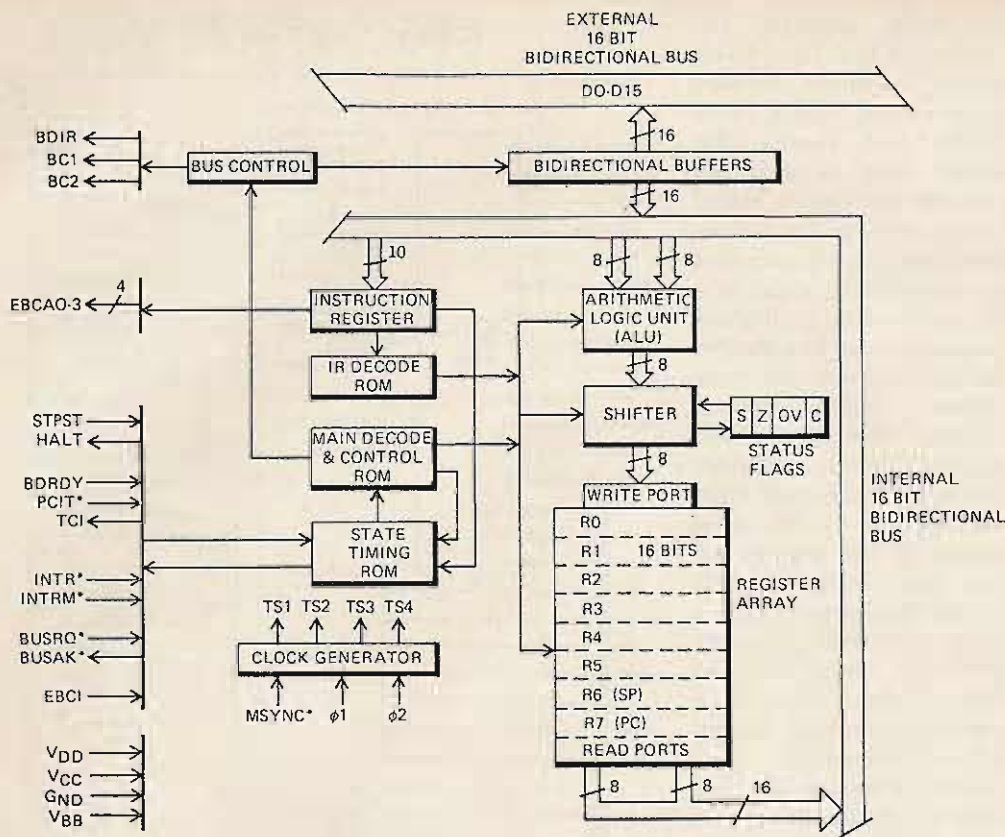

Fig. 3. CP-1600 internal block diagram.
Instruments is a single 40 pin chip, 16-bit MOS LSI microprocessor that closely resembles a Digital Equipment PDP-11 in architecture (see Fig. 3). There are eight general purpose, 16-bit registers with R6 reserved as the stack pointer (SP) and R7 as the program counter (PC) just as in the PDP-11. Unlimited stack depth and self-identifying nested interrupt and subroutine capabilities are provided by the stack pointer in conjunction with external RAM memory.